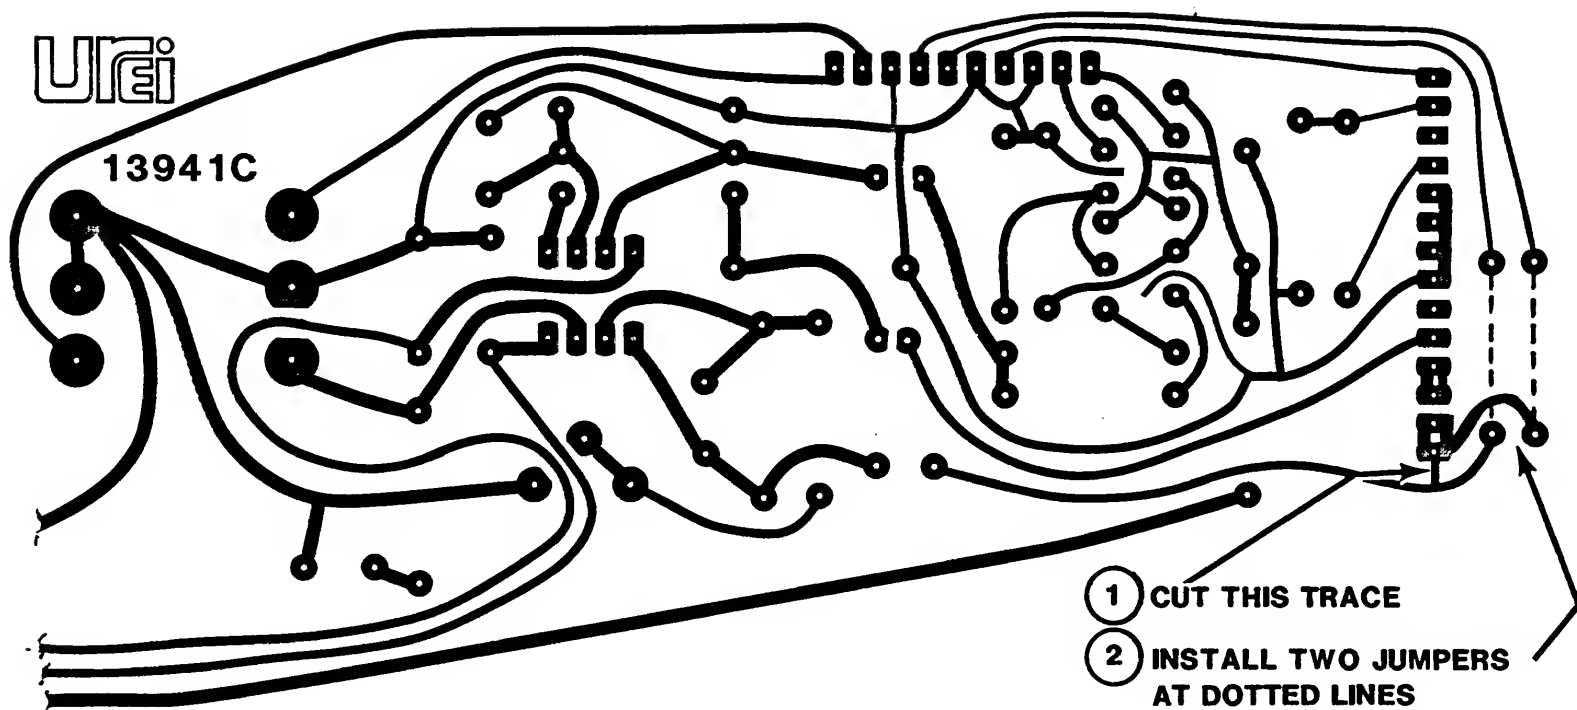

FIG. 2-8
- 2) Refer to Fig. 2-8 and the schematic for the mic preamplifier. You will note that a printed circuit trace connects capacitor C104 to pins 1 & 2 of connector J101 and continues past to an unused pad at the narrow end of the PC board.